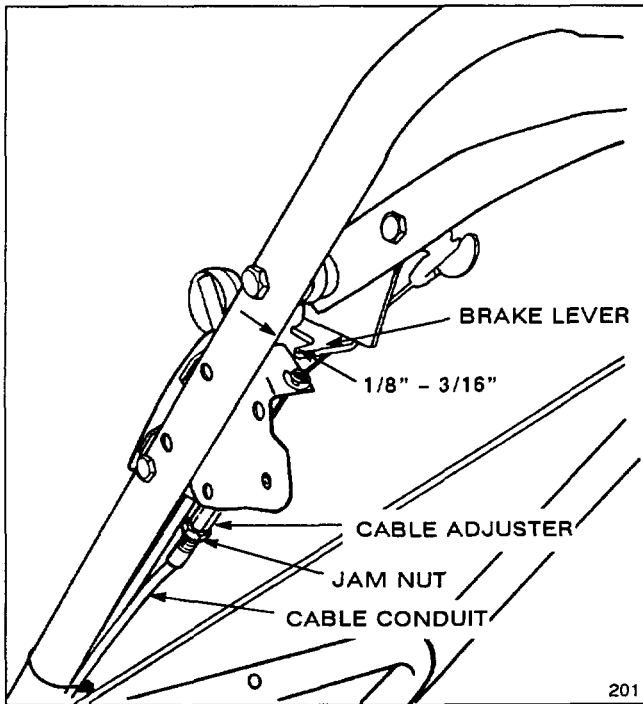

Figure 19
2. CHECK ADJUSTMENT (Fig. 19)—Move control bar toward handle until slack in wire is removed. Gap between brake lever and handle must be 1/8"–3/16". See step 3 for adjustment.
3. ADJUST CABLE CONDUIT—Loosen jam nut on cable adjuster (Fig. 19). Insert 1/8"–3/16" object between brake lever and handle. Adjust cable conduit until slack is removed. Then tighten jam nut.